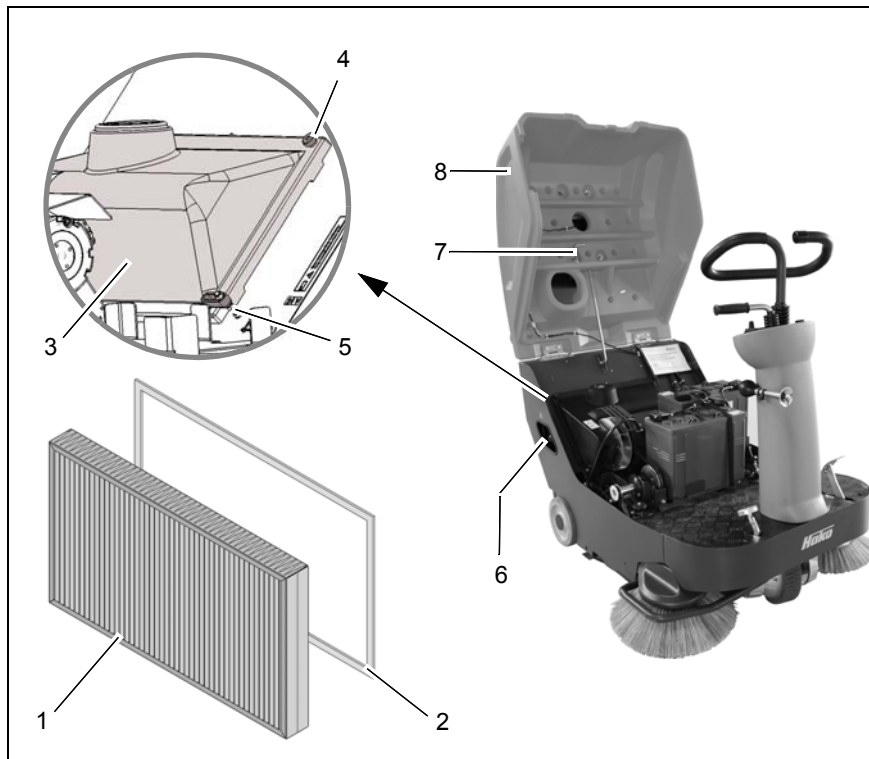

Fig.24
Clean the panel air filter (Fig. 24/1) in the dust vacuum regularly and as necessary using the shaking device:
2. Pull and push the lever (Fig. 24/6) of the shaking device in and out several times in succession.
Check the panel air filter (Fig. 24/1) and seal (Fig. 24/2) on a weekly basis and change them in the case of wear.
2. Open the seat console (Fig. 24/8) and secure with the safety support (Fig. 24/7).
3. Loosen the knurled nuts (Fig. 24/4) and locking handle (Fig. 24/5) and remove the hood (Fig. 24/3).
4. Check the panel air filter (Fig. 24/1)
and seal (Fig. 24/2) and clean or change them as necessary.
Drop the panel air filter (Fig. 24/1) from a minimal height a few times onto a level, solid surface. Be careful not to damage the filter ribs!